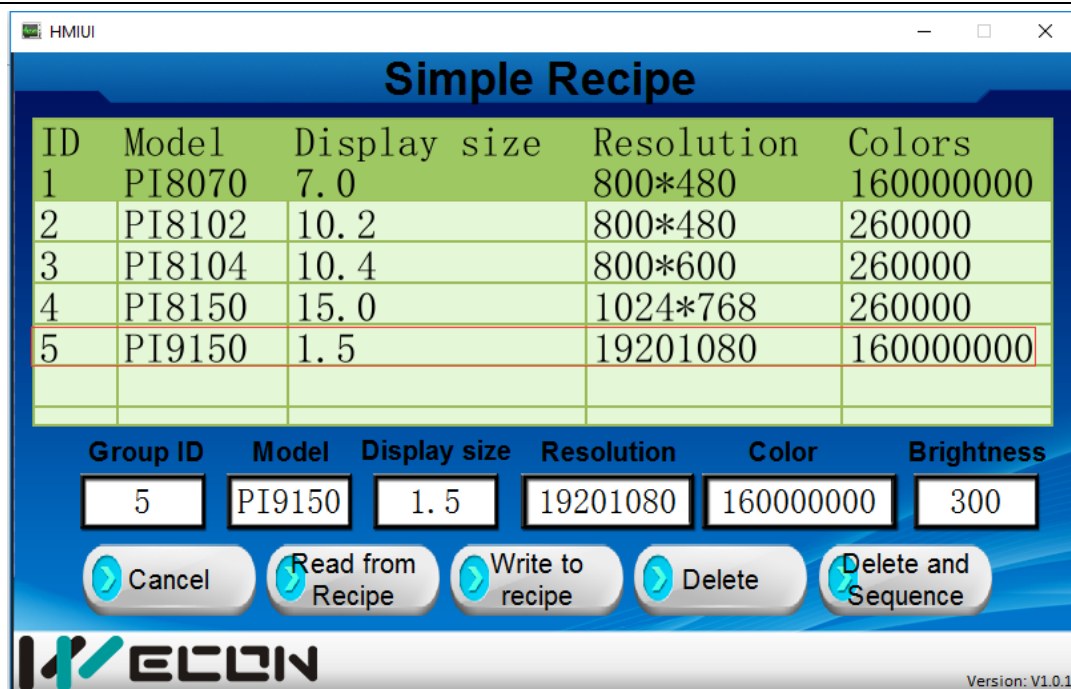

Figure 6
- 3) Click “Write to recipe”, if the group is existing the members’ information will be changed, if there are no groups, it will create a new group automatically, as figure 6 shows.